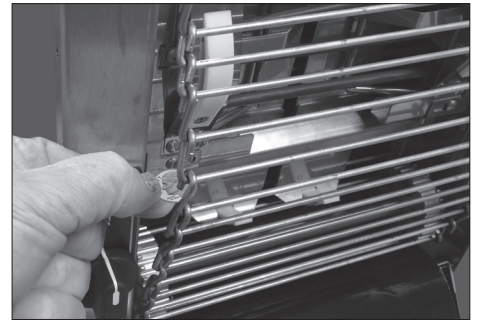

Figure 10. Measuring Conveyor Belt Chain
6. Pull the chain away from the edge of the toaster (Figure 10).
7. Measure the distance from the frame of the unit and the chain. A U.S. Dime (1.8 cm) can be used for the measurement (Figure 10).